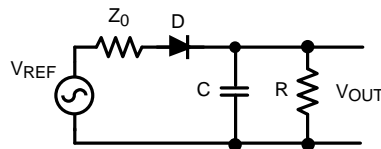

Figure 48. Diode Detector
A peak detector usually has a linear response. An example of this is a diode detector (Figure 48). The diode rectifies the RF input voltage and subsequently the RC filter determines the averaging (holding) time. The selection of the holding time configures the diode detector for its particular application. For envelope tracking a relatively small RC time constant is chosen, such that the output voltage tracks the envelope nicely. A configuration with a relatively large time constant can be used for supply regulation of the power amplifier (PA). Controlling the supply voltage of the PA can reduce power consumption significantly. The optimal mode of operation is to set the supply voltage such that it is just above the maximum output voltage of the PA. A diode detector with relative large RC time constant measures this maximum (peak) voltage.